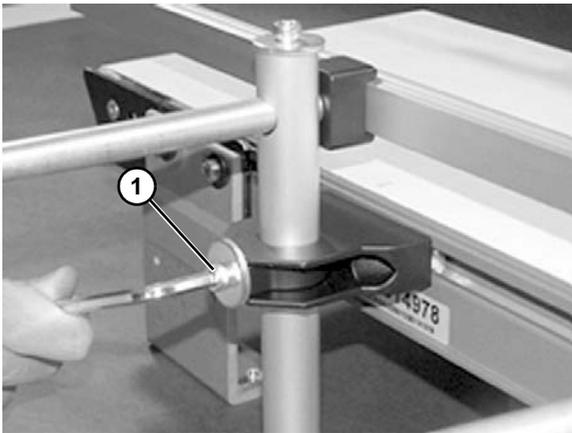

Figure 39
7. Adjust rail height with lower screw (**Figure 39, item 1**).